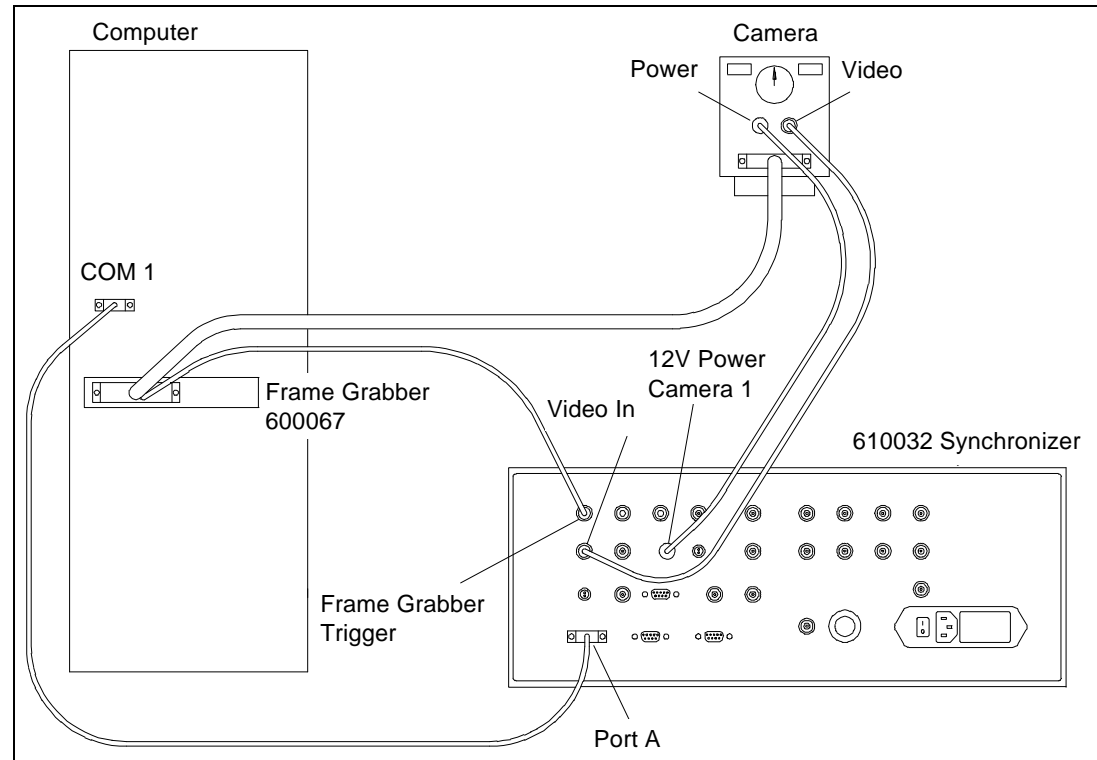

Figure 2
2. Connect the 31-pin D-connector to **Digital Out** on the back of the camera. Make the following connections for the two connectors on the other end of the Frame Grabber cable. Refer to Figure 2 as you make these connections.